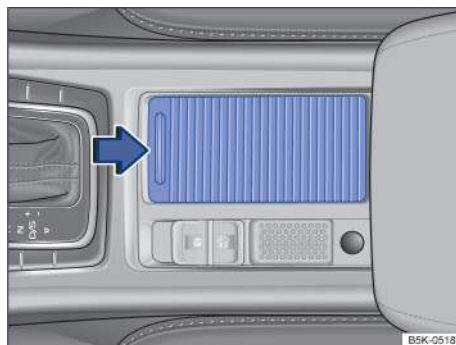

Fig. 134 In the front center console: Opening the cup holder cover (if equipped).
- *To open the cover:* Pull the cover to the rear → fig. 134 (arrow).